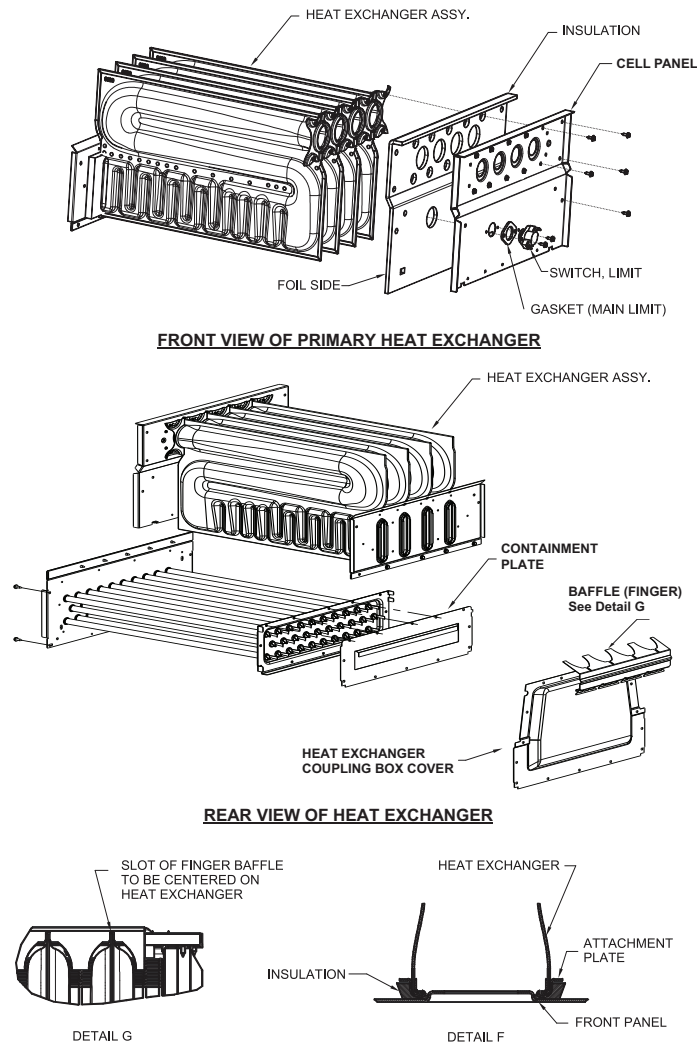
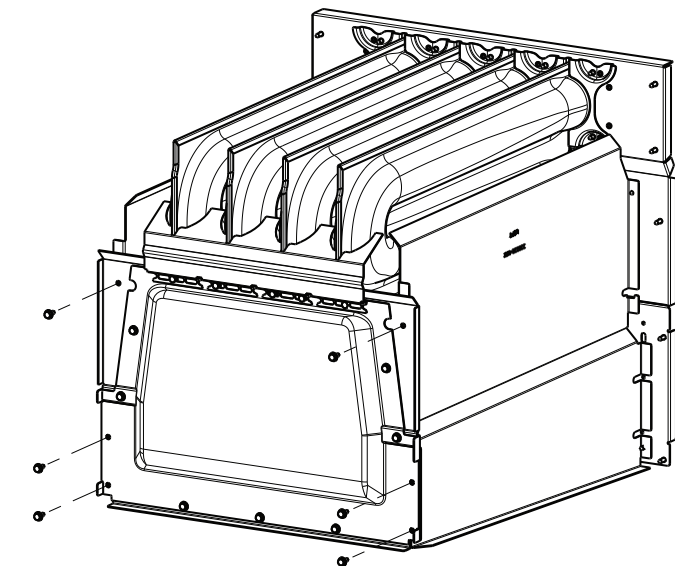

Fig. 5 – Heat Exchanger Removal / Installation
Fig. 6 – Coupling Box/Sidewall Baffle Removal / Installation - Rear View
1. Remove the screws that secure the finger baffle from the Coupling Box Cover. See Fig. 5.
5. Once the Coupling Box cover is sufficiently loosened, remove the coupling box cover from the rear of the Heat Exchanger Assembly. See Fig. 6.
3. Insert the screws around each burner inlet opening that attaches the heat exchanger cell panel to the primary inlet plate of the primary heat exchanger assembly. See Fig. 5.
2. The orange foam gasket must be between the primary cell outlet panel and the containment plate that is attached to the condensing heat exchanger. The white fiber gasket or equivalent must be between the primary cell inlet panel and the condensing heat exchanger outlet panel. See Fig. 5.
3. Insert all the screws, except the outboard screws in the primary outlet panel, to secure the primary heat exchanger panels to the condensing heat exchanger panels (front and back). See Fig. 5.
2. Align the Coupling Box Cover over the rear of the Heat Exchanger Assembly. See Fig. 5 and Fig. 6.
4. Align the Finger Baffles along the top edge of the Coupling Box Cover. See Fig. 5.
Insert the slot on the sidewall baffle over the tab on the primary cell panel. See Fig. 6.